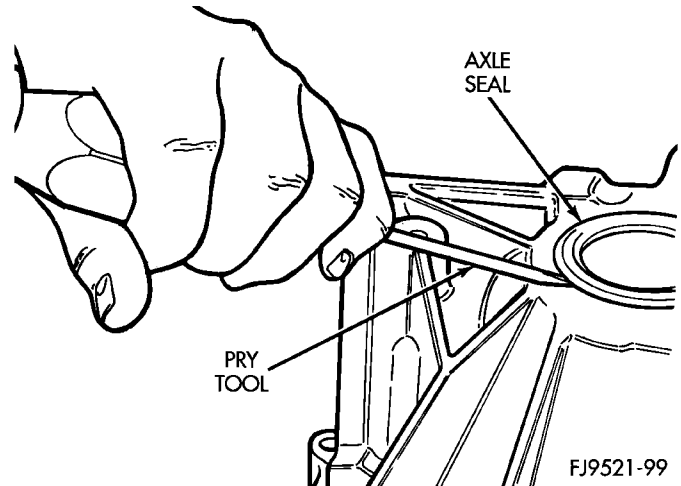

Fig. 22 Axle Shaft Seal Removal
- (1) Remove axle shaft. Refer to Group 2, Suspension and Driveshafts for service procedures.
- (2) Insert a flat-blade pry tool at outer edge of axle shaft seal (Fig. 22).
- (3) Tap on the pry tool with a small hammer and remove axle shaft seal.